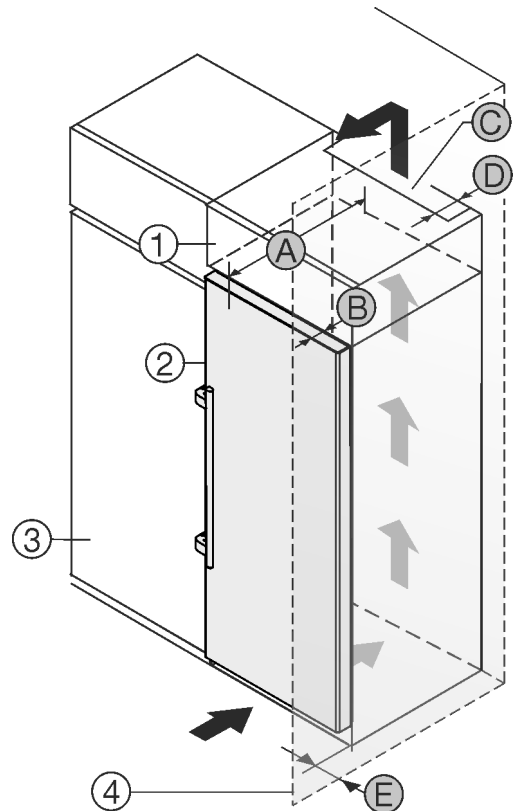

Fig. 8
The appliance can be built into kitchen units. A top cupboard Fig. 8 (2) can be added above the appliance in order to bring the appliance Fig. 8 (1) up to the height of the fitted kitchen units.
The appliance can be installed right next to the kitchen cabinet Fig. 8 (3). The appliance must protrude by depth Fig. 8 (B) from the front of the cabinet so that the doors can be opened fully. The appliance may protrude further depending on the depth of the kitchen cabinets and whether wall spacers are used.
- At the back of the top cabinet, there must be an air outlet shaft with depth Fig. 8 (D), spanning the entire width.
- The ventilation shaft Fig. 8 (C) must be observed under the ceiling.
If the appliance is installed with the hinges next to a wall Fig. 8 (4), the distance Fig. 8 (E) between the appliance and the wall must be observed. This is how far the handle protrudes when the door is open.